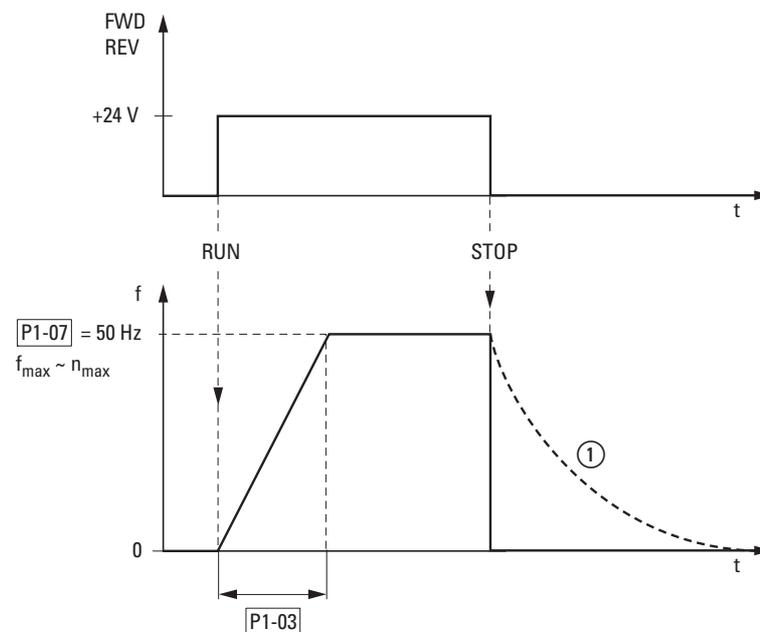

Figure 92: Start-Stop command with maximum reference voltage
Figure92 shows a good example of the process, if the release signal (FWD/REV) is switched on and the maximum setpoint voltage reference voltage (+10 V) is applied. The speed of the motor follows the output frequency depending on the load and moment of inertia (slip), from zero to  $n_{max}$ .
If the release signal (FWD, REV) is switched off during operation, the inverter is blocked immediately (STOP). The motor comes to an uncontrolled stop (see ① in Figure92).